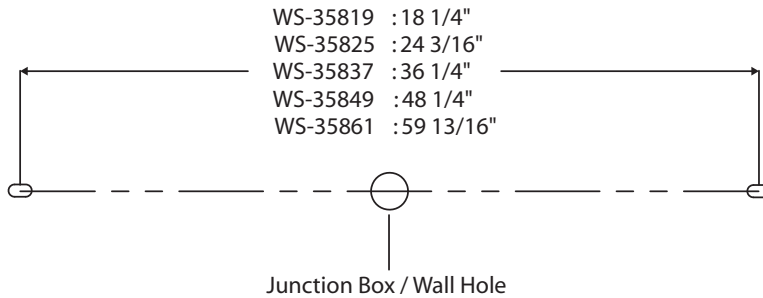

FIG. 4 Wiring
1. Drill a fixture mounting hole according to (installation location), insert the plastic anchor (D).
2. Remove the mounting screw (B) and the end cap from the fixture.
4. Connect the fixture's wires to house wires as shown in Fig.4, making sure that all wire connectors (A) are secured. If your outlet box has a green or bare copper ground wire, connect the fixture's ground wire to it. Otherwise, tuck the fixture's ground wire directly to the fixture. After wires are connected, tuck them carefully inside the wall hole.
5. Slide acrylic diffuser and PC strip slightly out of the way to review the plastic anchor location on the back, then fasten the fixture to the wall using wood screw (E).
6. Secure the end cap to the fixture using mounting screw (B) to seal the acrylic diffuser.
1. Secure the assembly screw (G) and decorative plate (F) to the fixture, then replace the existing silicon gasket with the supplied silicon gasket (C).
2. Drill a fixture mounting hole according to (installation location), insert the plastic anchor (D).
3. Remove the mounting screw (B) and the end cap from the fixture.
4. Connect the fixture's wires to house wires as shown in Fig.4, making sure that all wire connectors (A) are secured. If your outlet box has a green or bare copper ground wire, connect the fixture's ground wire to it. Otherwise, tuck the fixture's ground wire directly to the fixture. After wires are connected, tuck them carefully inside the junction box.
5. Slide acrylic diffuser and PC strip slightly out of the way to review the plastic anchor location on the back, then fasten the fixture to the wall using wood screw (E), make sure to align the decorative plate to adequately cover the junction box wall opening.